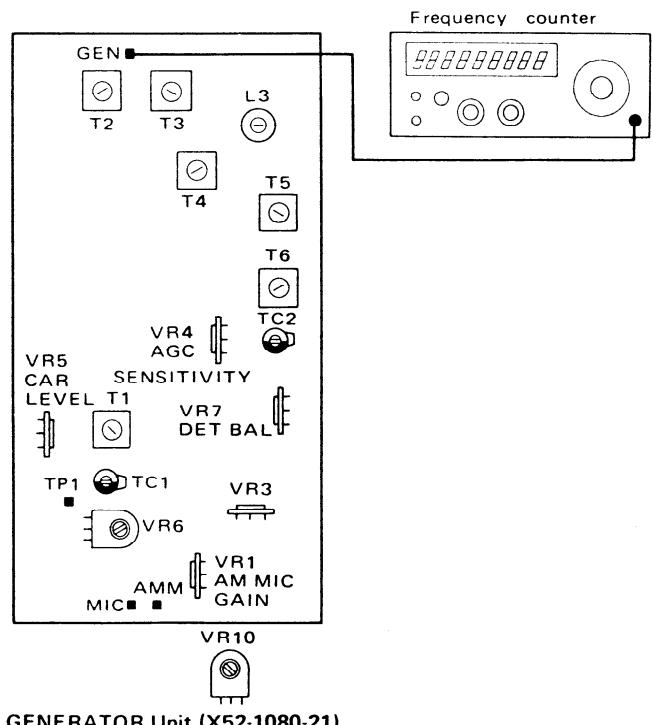

Fig. 21 Adjustment of FM Carrier Frequency
- (10) **Directional coupler**
- (11) **Oscilloscope**
- (12) **SSG**
- (13) **Dummy resistor**
- (14) **Noise generator**
- (15) **Cord with clips (see Fig. 21)**